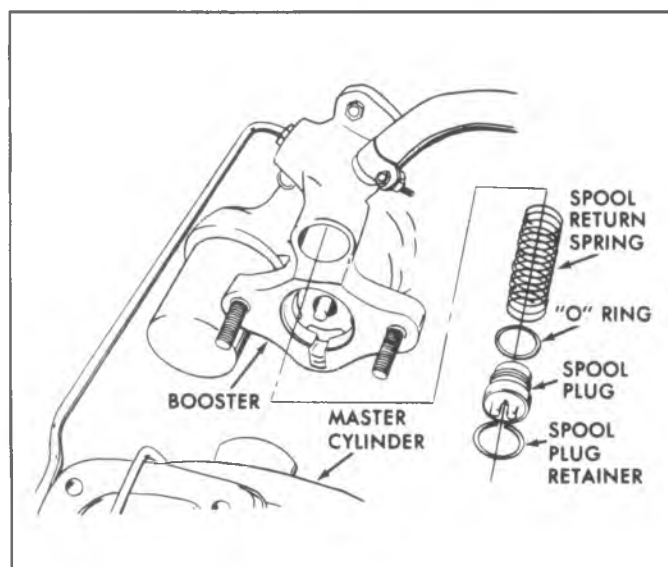

Fig. 5-53--Spool Valve Plug Removal
3. Push spool valve plug in and use a small screwdriver to remove retaining ring (fig. 5-53).
1. Install "O" ring and spool valve plug (fig. 5-53).